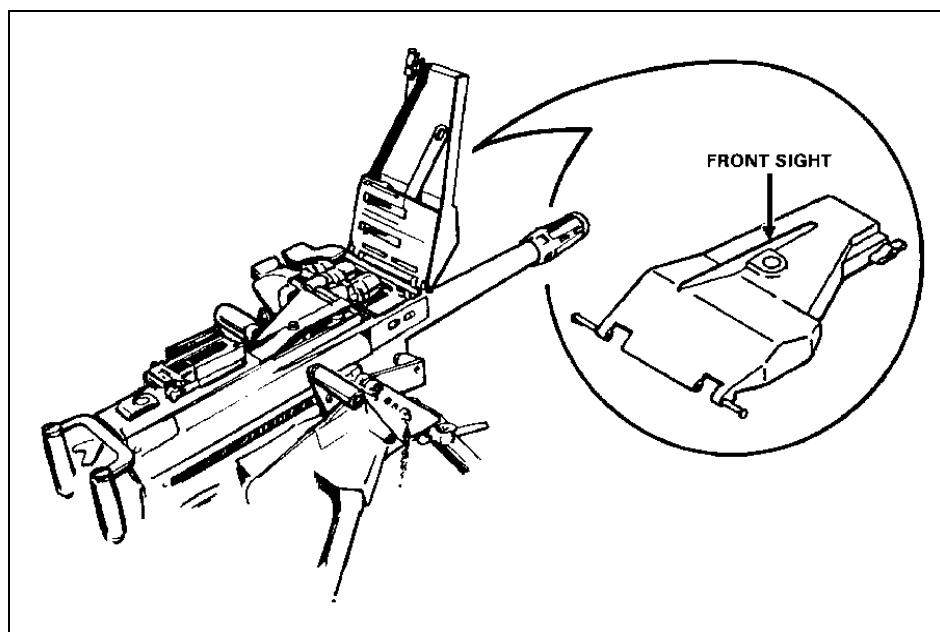

Figure 1-3. Front sight on top cover assembly.
c. **Top Cover Assembly.** Holds the feed slide assembly and tray. It is opened by a latch (left side) for loading or to clean and inspect feeder area. A blade-type front sight is attached to the top cover assembly (Figure 1-3).